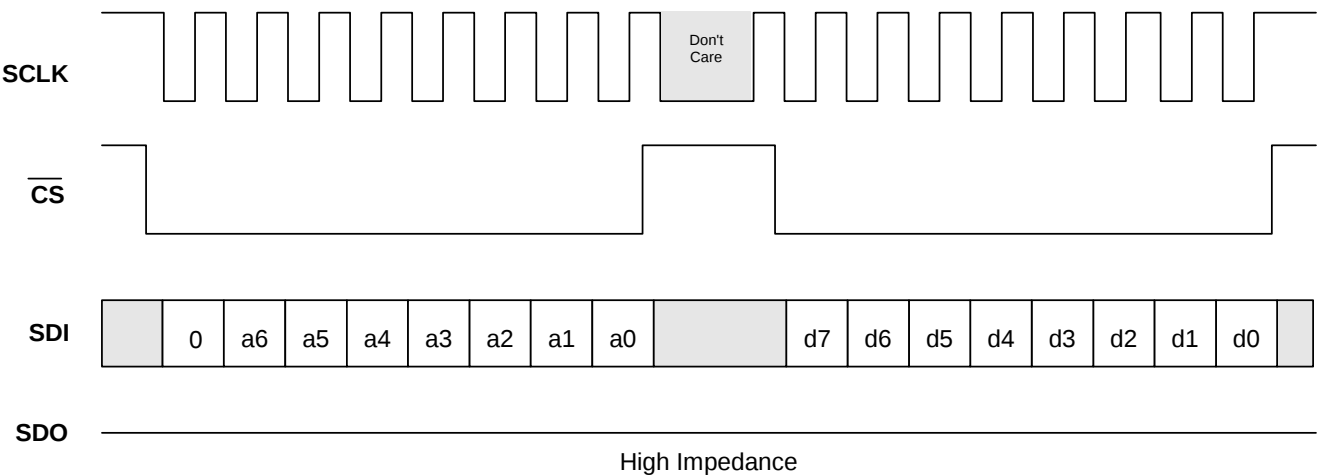

Figure 26. Serial Write 8-Bit Mode
The control interface to the ProSLIC is a 4-wire interface modeled after commonly-available micro-controller and serial peripheral devices. The interface consists of a clock (SCLK), chip select (CS), serial data input (SDI), and serial data output (SDO). Data is transferred a byte at a time with each register access consisting of a pair of byte transfers. Figures 26 and 27 illustrate read and write operation in the SPI bus.
The first byte of the pair is the command/address byte. The MSB of this byte indicates a register read when 1 and a register write when 0. The remaining seven bits of the command/address byte indicate the address of the register to be accessed. The second byte of the pair is the data byte. Because the falling edge of $\overline{CS}$ provides resynchronization of the SPI state machine in the event of a framing error, it is recommended (but not required) that CS be taken high between byte transfers as shown in Figures 26 and 27.